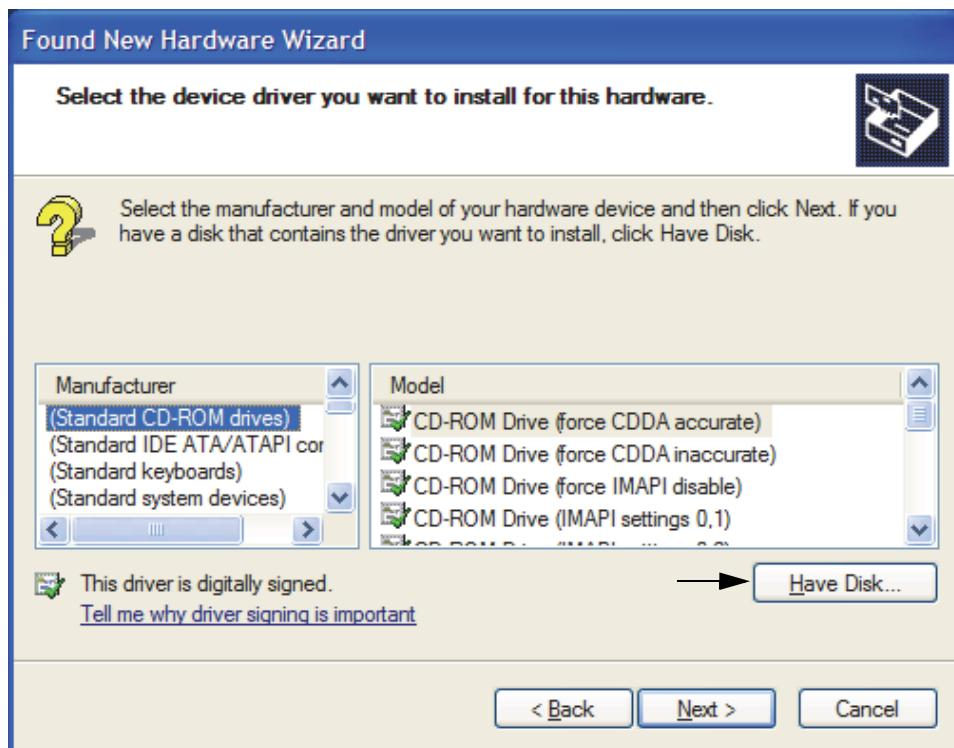

Figure 5-9. Found New Hardware Wizard - Select Have Disk
6. Select **Have Disk** and select **Next**. See Figure 5-9.